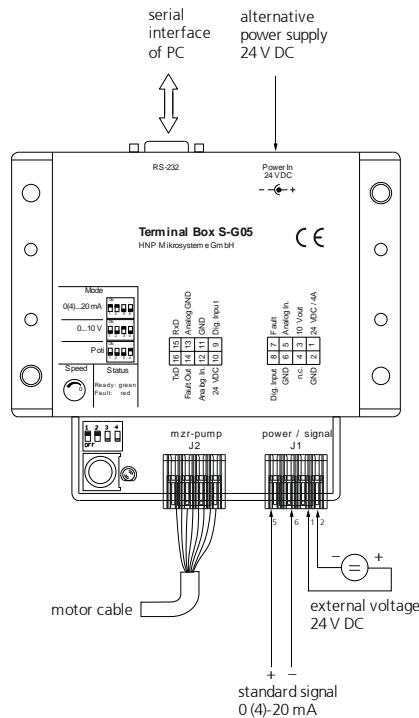

figure 14
4. Connect the external current source to the screw clamps »AnalogIn« and »GND« to the S-G05. (see figure 14).